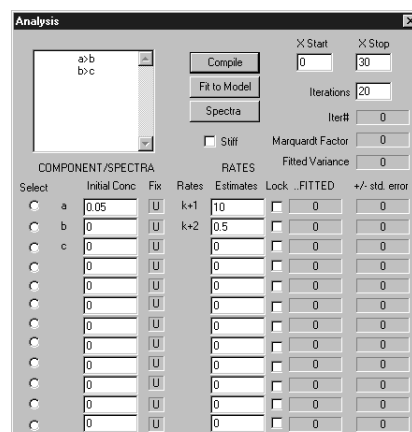

Figure 6
All of these functions are encapsulated in the single analysis window shown in figure 6. The reaction model entered is a two-step process with estimated rates of 10 s^{-1} and 0.5 s^{-1} which is suitable for the analysis of the acid hydrolysis of tris(ethylamine)nickel(II) ion.